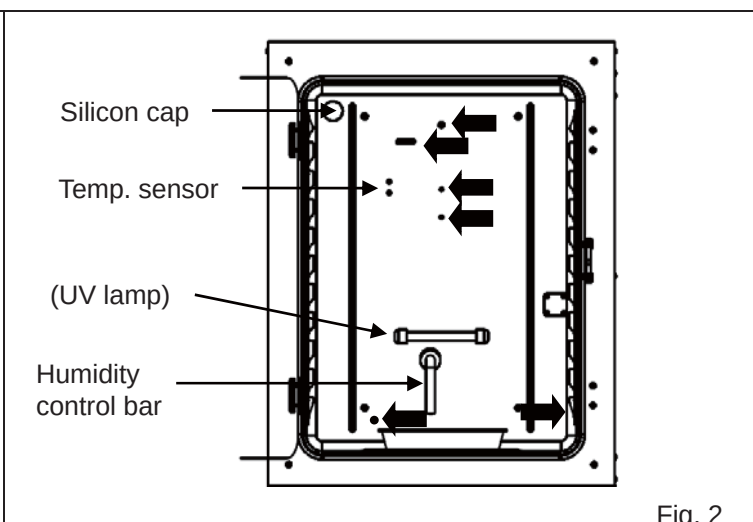

Fig. 2
Be careful to keep the diluted detergent or water out of the temperature sensor, the CO₂ gas injection port, the gas injection port, the inner sample air access port, the fan motor shaft bearing, and the inner sample air outlet (marked on Fig. 2 by ). Also, do not wash the temperature sensor and the UV lamp using detergent. Doing so may cause failure.
3. Pull out the humidifying pan cover (Fig. 2).